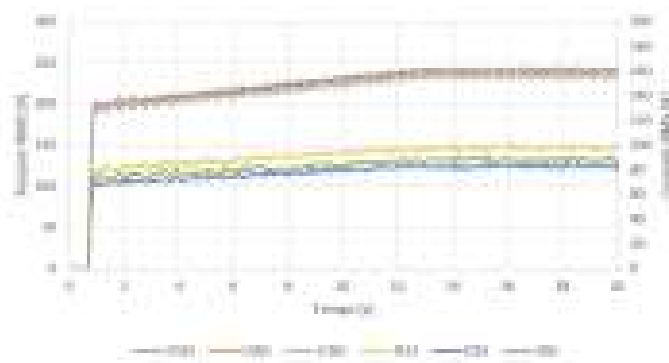

Figure 7: Voltage and current during a blackstart
- The second mode is called the **unforeseen islanding**. It simulates the situation when a fault occurs (loss of the submarine cable) and a breaker opens leaving the distribution grid without energy. The ESS has to create a blackstart, which means that it is able to energise the microgrid starting from no voltage, Fig. 7. The resynchronisation is performed in the same way as for scheduled islanding: without interruption of service.